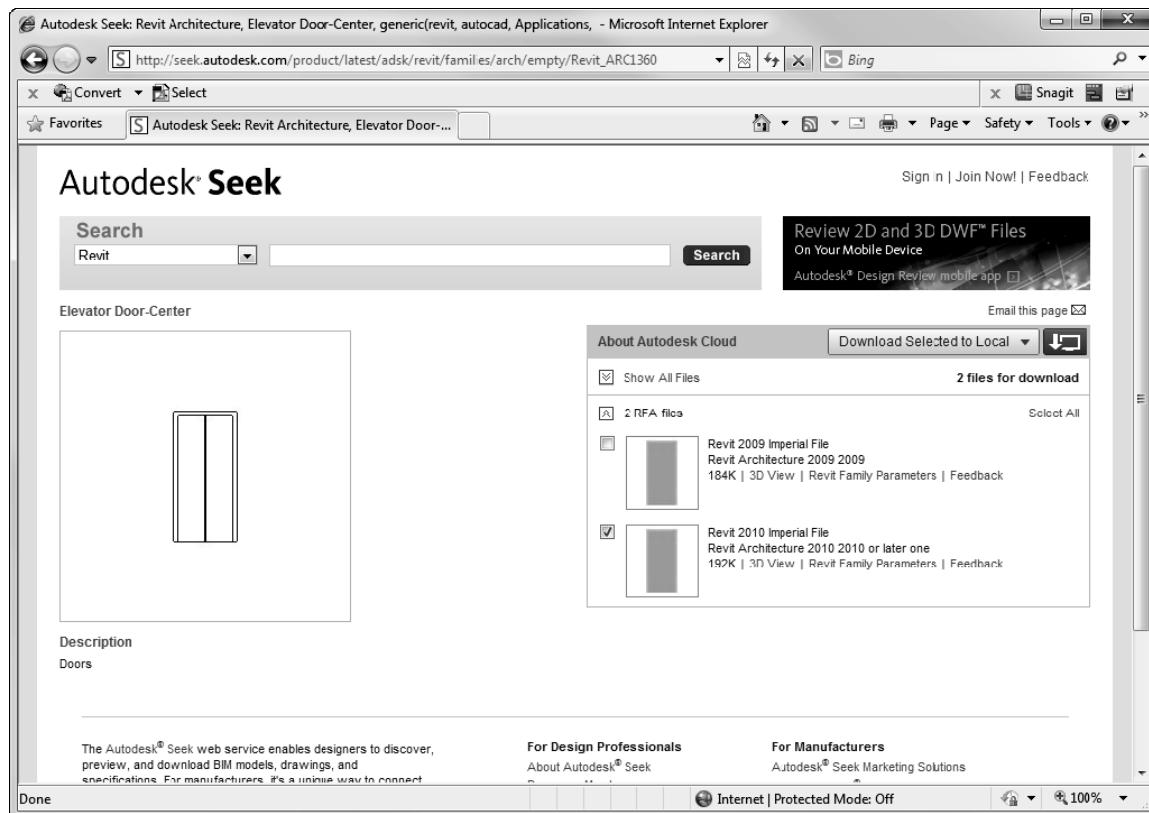

FIGURE 3-4.8 Elevator door from [Seek.Autodesk.com](http://seek.autodesk.com)
21. Similar to the steps previously covered, load the **Elevator Door – Center** family from the [Seek.Autodesk.com](http://seek.autodesk.com/product/latest/adsk/revit/families/arch/empty/Revit_ARC1360) website (Figure 3-4.8).